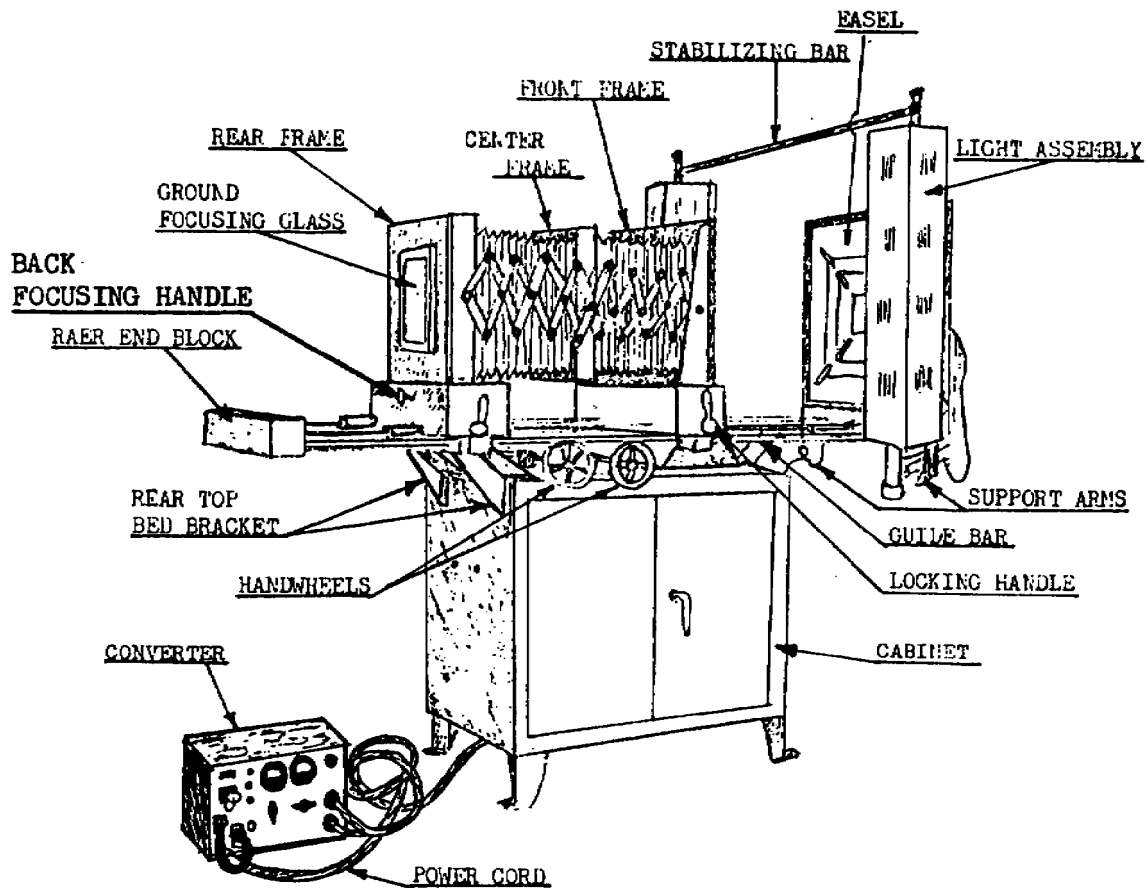

FIGURE 12. Camera set, set up for horizontal operation, right-rear view.
(2) Secure the mask (or masks) to the front of the easel (figure 12).
(3) Secure the copy within the mask with the clips provided at the corners.
- (1) Tip the easel (figure 12) to the right (horizontal position).
- (2) Release the latch fasteners and open the easel.
- (3) Place the copy over the scale on the mounting plate, or within the border lines as necessary.
- (4) Close the easel and secure the latch fasteners.
- (5) Raise the easel to the vertical position.